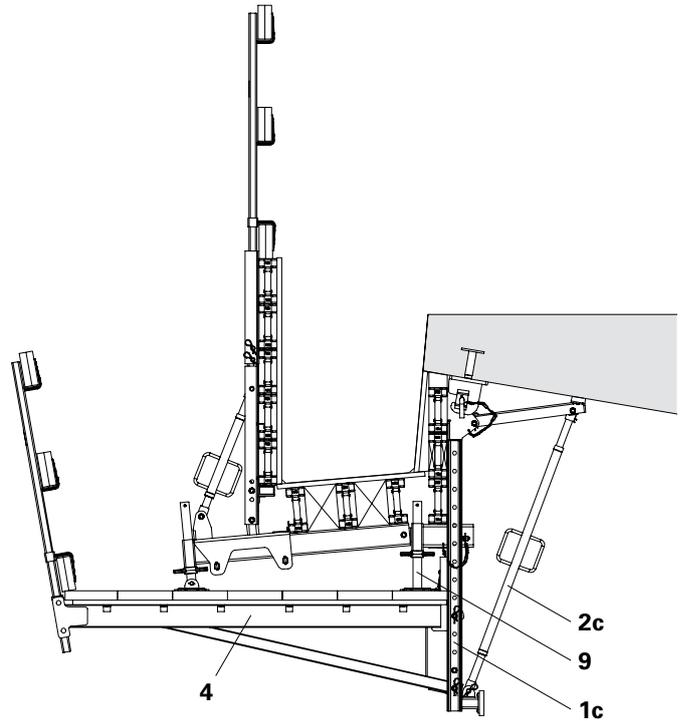

Fig. A4.03a
- The Kicker AV 140 (2c) is always connected to the base of the Bracket Post VGK 139 (1c) by means of bolts and cotter pins. (Fig. A4.03a)